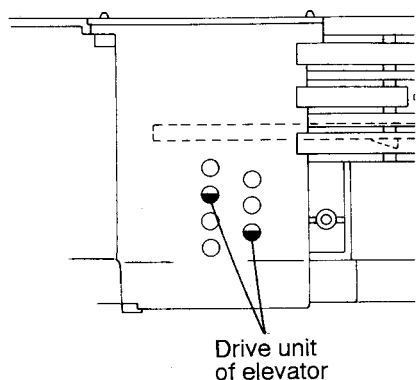
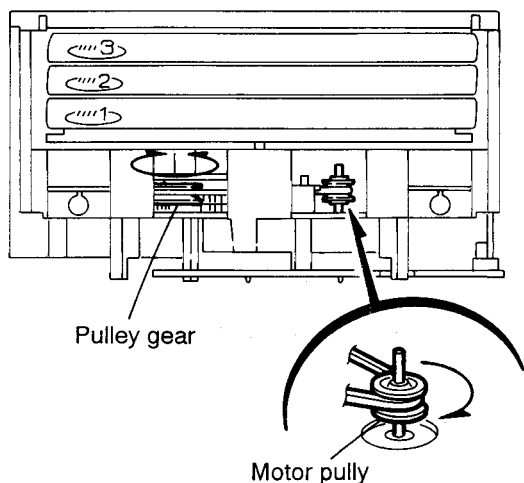

Fig. 5-22a
Fig. 5-23
12. Make sure that the driver unit elevator is positioned as shown in Fig. 5-22a from to the second or fifth hole on the left side face of the CD changer mechanism.
[Caution] In case the driver unit elevator is not at the above position, set the elevator to the position as shown in Fig. 5-22a by manually turning the pulley gear as shown in Fig. 5-23.
13. Manually turn the motor pulley in the clockwise direction until the lifter unit stopper is lowered from the section (F) of CD tray assembly (See Fig. 5-23).